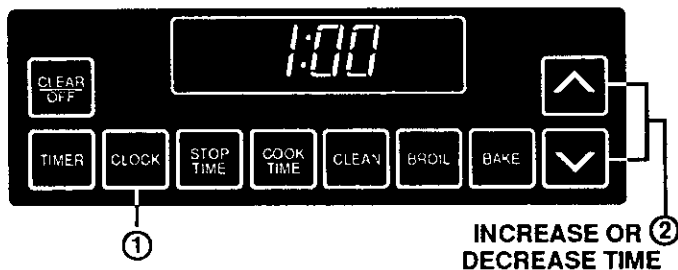

Fig. 1
2. Press the UP or DOWN arrow pad to select the correct time of day. Hold your finger on the arrow pad to change display numbers quickly. Touch and release the arrow pad to change the time slowly. See Fig. 1.